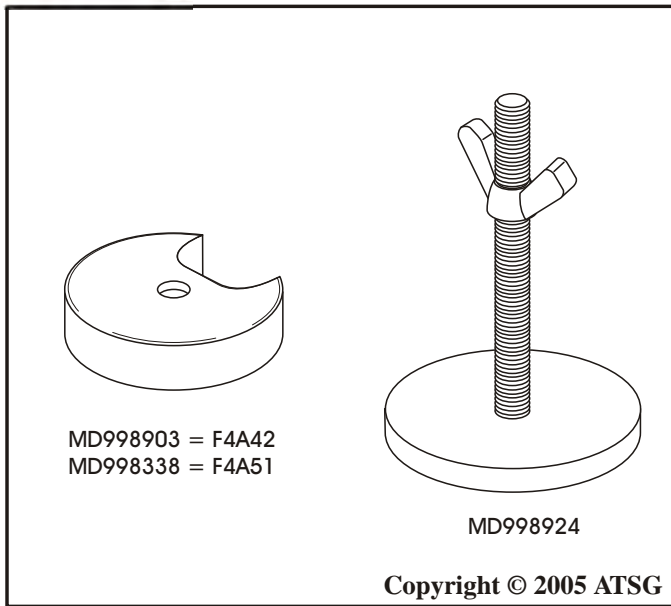

Figure 170
35. Compress the sprag race, retainer and return spring using special tools shown in Figure 170, and install snap ring.